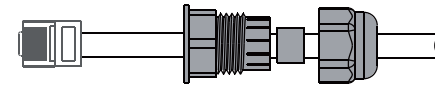

Figure 4.5-4 Remotely close the cable connection
Step 3-2 For Remote Shutdown. Run the cable through the steel plate . Then wire from pins 5 and 6. Table 4.6-1 describes the 6-pin port definition, Wiring is shown in Figure 4.5-4.